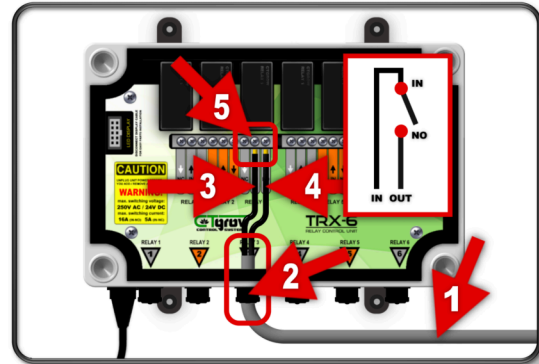
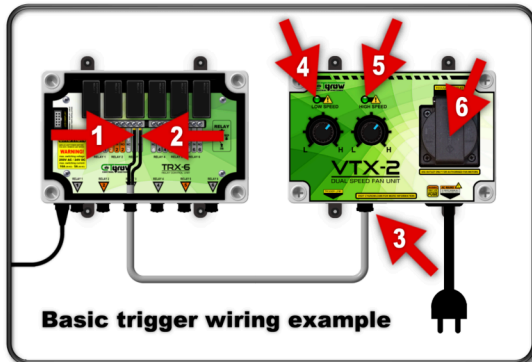
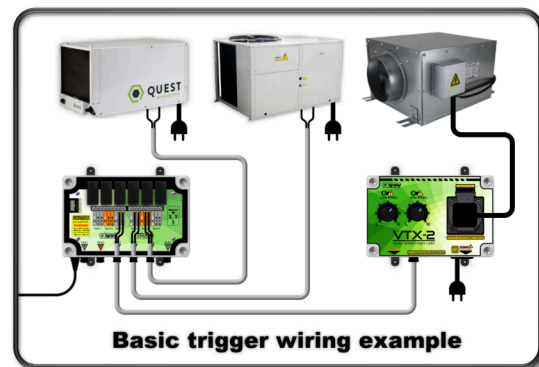

Figure 6.0.1
Figure 6.0.2
Figure 6.0.3
Some electrical devices, particularly those designed for remote industrial or automated control, come equipped with a remote trigger port or terminal. This feature allows for simplified wire control, enabling the device to be easily integrated into larger systems or controlled from a centralized location. (See Figure 6.0.3).
For example, devices like De-humidifiers or fan-speed controllers may include a remote trigger port/terminal to enable external control over their operation. By connecting the TRX-6 relay unit to these devices using the trigger wiring configuration, you can effectively control their functions and settings remotely, without the need for manual interaction with each individual device. (See Figure 6.0.2 and 6.0.3).
In this trigger-wiring example, we will connect and use relay number 3 for a basic on/off trigger port setup that will control a device like a De-humidifier or as in this case a CTgrow VTX-2 fan-speed controller. (refer to Figure 6.0.2).
Start by loosening the cable gland to allow the electrical control wires/cable to pass through the correct cable gland. Next, guide the cable/wires through the cable gland. Once the cable/wires are inside the unit, securely close the cable gland to lock them in position. (see Figure 6.0.1-1/2).
Locate the corresponding (IN) and (NO) terminal screws for the relay switch. The two terminal connectors can be opened easily by rotating the terminal screws in a counter-clockwise direction (see Figure 6.0.1-5).
Take the incoming wire and insert it into the (IN) terminal (see Figure 6.0.2-1). Make sure that the wire is fully inserted and tightened within the terminal (see Figure 6.0.1-5). Next, take the return wire and insert it into the available (NO) terminal and lock it in place (see Figure 6.0.3-4).